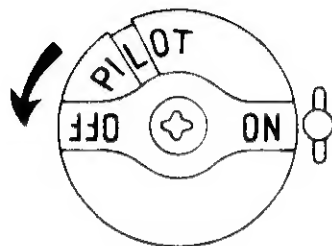

Fig. 2
- After the pilot remains lit, turn the knob counter-clockwise to the ON position. See Figure 2.